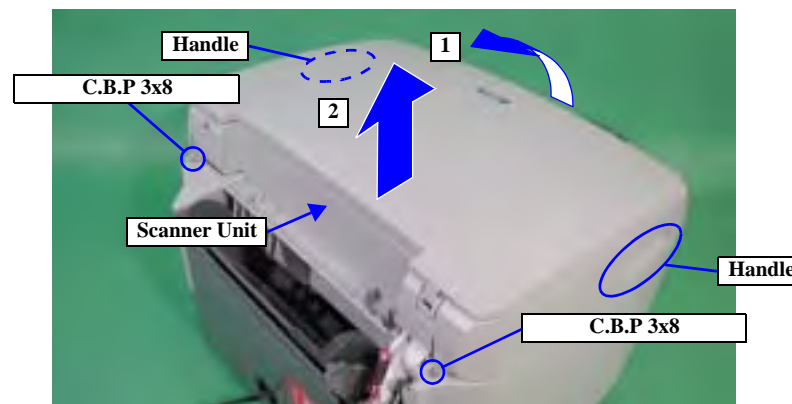

Figure 4-5. Scanner Unit Removal 3
7. Grasp the machine by the left and right handles, then follow the order shown in Figure 4-5 to remove the scanner Unit from the Printer Unit.